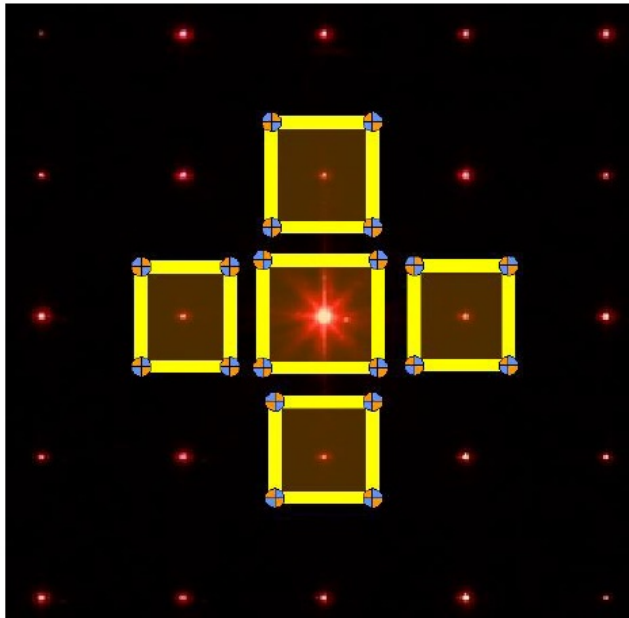

Figure 8: Manual point detection
For a successful analysis, it is not necessary to detect all of the points. If auto-detection fails, you can do a manual ROI selection by setting the checkmark in the “Detection & analysis” section (2). Five preset ROIs will then appear in the visualized image. Size and position of these ROIs are adjustable by click&drag. One ROI must be positioned on the 0th diffraction order (the brightest point in the center of the grid). Adjust the ROI size so that it contains only one point. The four remaining ROIs must be positioned on the four points closest to the 0th diffraction order, i.e., the one above, below, to the left and to the right. These four ROIs may also only contain one point. Furthermore, the individual ROIs should not overlap too much. See Figure 8 below for reference.